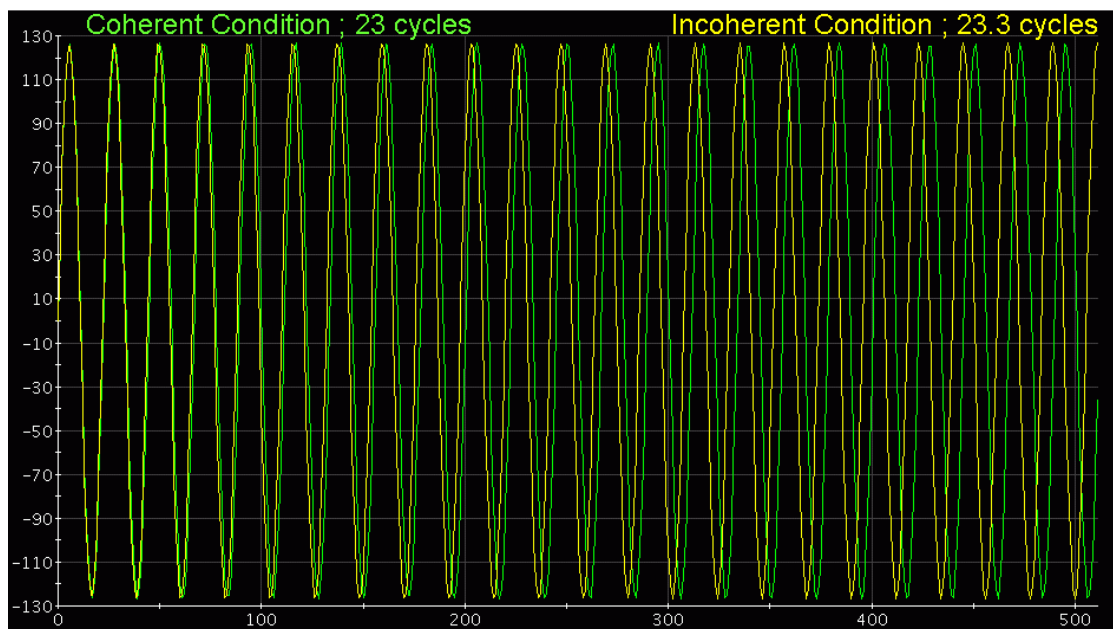
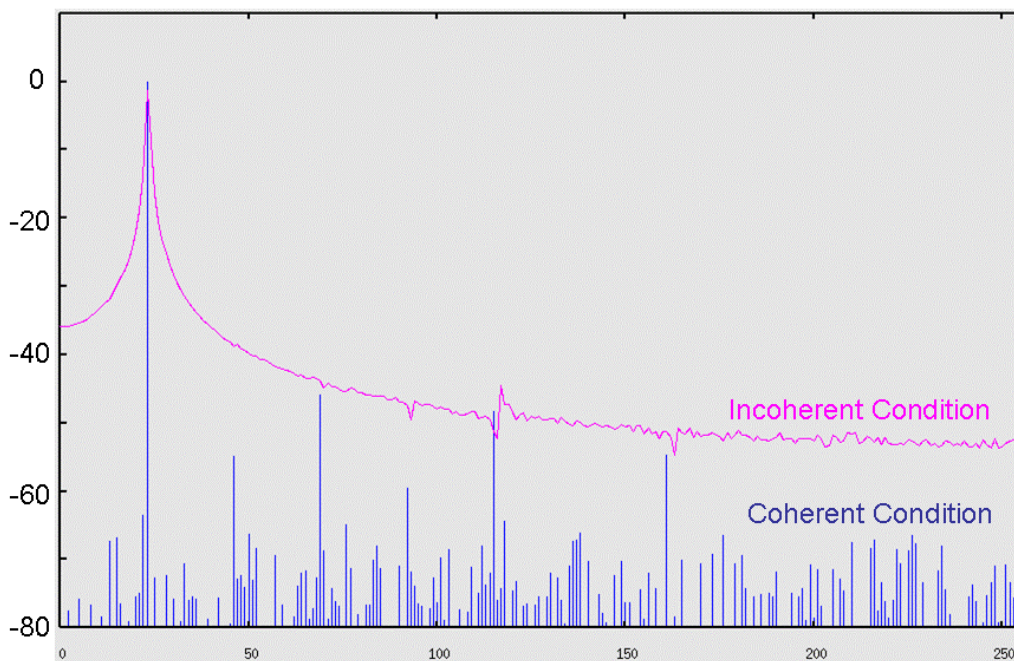
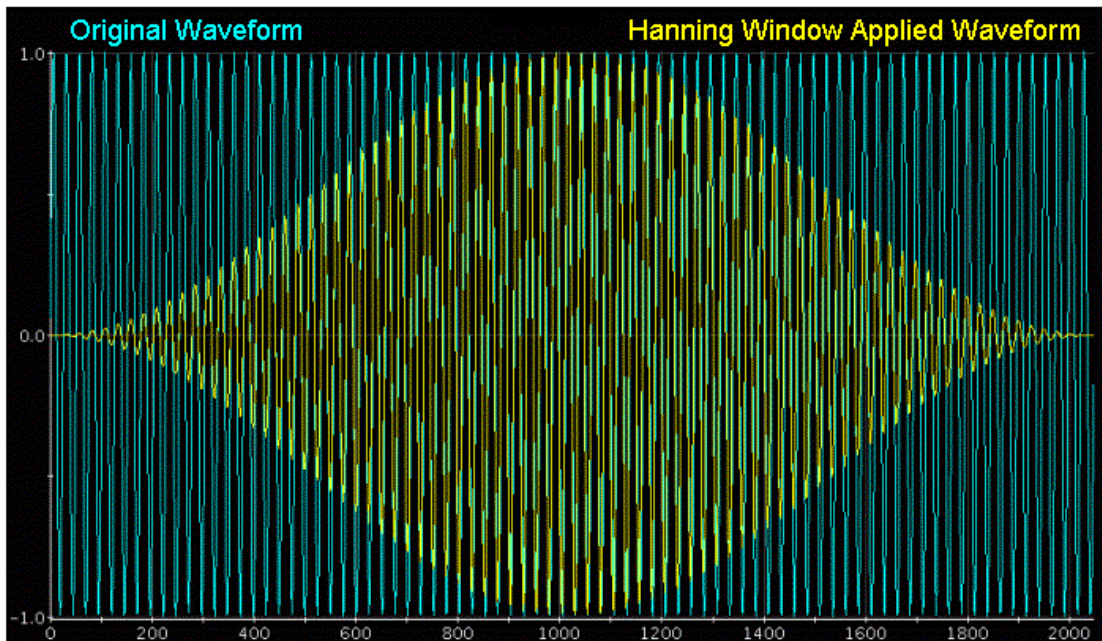

Figure 1: Fractional-M Waveform (yellow)
Figure 2: Smearing Spectrum for Fractional Number M
Figure 4: HANNING Window Applied Waveform
If M in Equation (1) cannot be settled as an integer number for some reason, the end point of the captured waveform cannot smoothly be connected to the start point of the data. It means the waveform does not look continuous. In Figure 1, the green line shows that the whole 23 cycles of the sinusoidal waveform is exactly captured in the unit test period of 512 points. This is coherent and nice condition. In the case of the yellow line, 23.3 cycles of the sinusoidal waveform is captured so that there is a big discrepancy between the end and the start points.
Performing FFT to the waveforms in Figure 1, the frequency spectrum looks as Figure 2. In Fourier transforms, the waveform captured in the UTP is supposed to be infinitely continuous and repetitive. When the whole number of cycles is captured in the UTP, the frequency spectrum looks nice and clear as the blue lines in Figure 2, which is the FFT result of the green waveform (23 cycles) in Figure 1. The spectrum of the yellow waveform (23.3 cycles) in Figure 1 looks the red line in Figure 2, which is significantly smeared, and you cannot see the small components
When Hanning window is applied to the fractional-M waveform in Figure 1, it makes the envelope of the waveform as spindle shape as Figure 4.